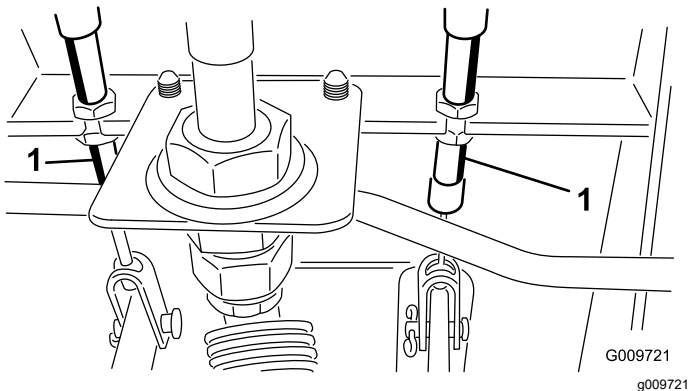

Figure 76
- A. Loosen the front nut on the threaded end of the brake cable (Figure 76).